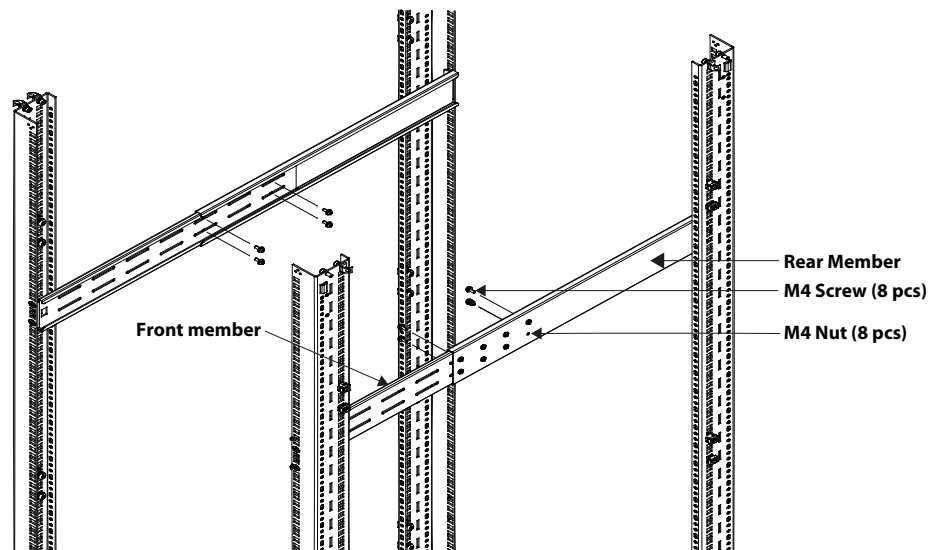

Figure 11: Fastening rear member and front member together
6. Fasten rear member and front member together using four M4 screws and four M4 nuts (M4 nuts have been installed on the rear member before delivery) per bracket assembly as shown in Figure 11.